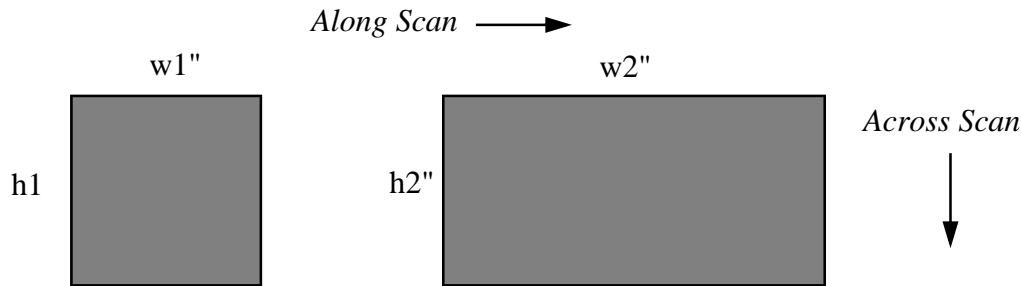

Fig. A2.2.1: Test Images
1. Prepare two grayshade images in a format that is acceptable for sending to your laser engraver. Make the first image a black rectangle that is w_1 inches wide (along scan) by h_1 inches high (across scan). Make the other image a black rectangle that is w_2 inches wide (along scan) by h_2 inches high (across scan). Produce the images at the same resolution that you intend to use on the laser engraver, e.g., 250 dpi would probably be a good choice for a ULS machine and 300 dpi would probably be a good choice for an Epilog or LMI machine. The images can be produced in CorelDraw or PhotoShop by small modifications to the procedures described in Sec. A3.1, Steps 1A and 1B. The images you have produced should appear as depicted in Fig. A2.2.1.